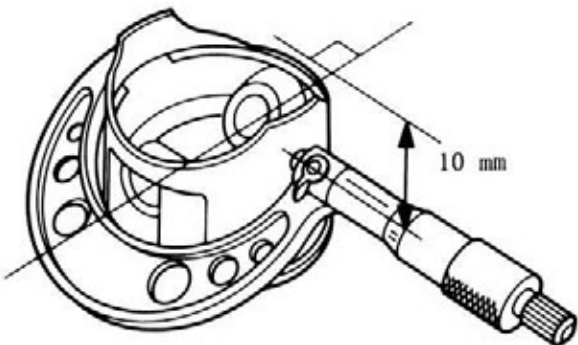

Figure 4-33: Piston Skirt Measurement
1. See Figure 4-33. Measure top and second piston ring width.